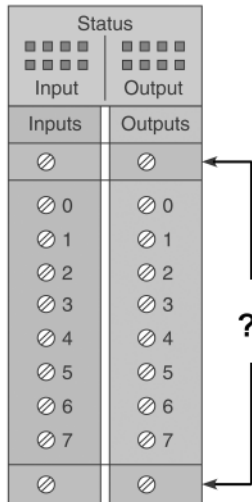

Figure 2-1 I/O module for question 22.
22. For the I/O module of Figure 2-1, the arrows point to the: 22. **d**